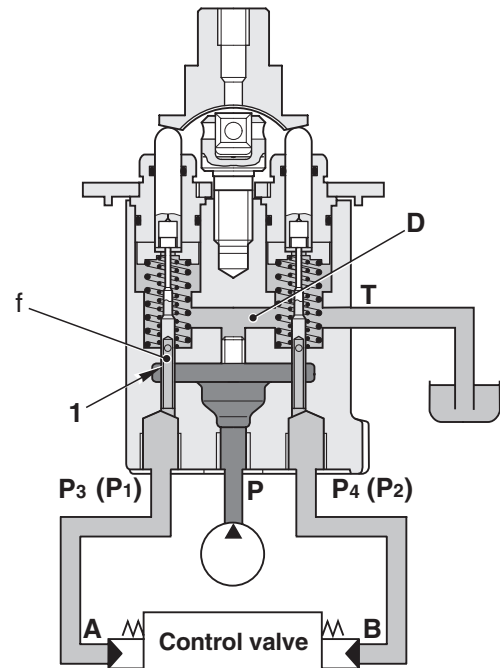

Fig. 1
Ports **A** and **B** of the control valve and Ports **P1** and **P2** of the PPC valve are connected to drain chamber **D** through fine control hole **f** in spool (1). (Fig. 1)